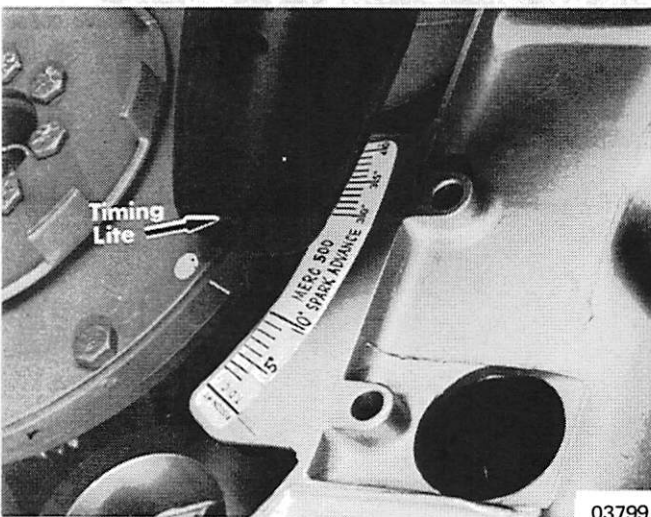

Figure 5. Timing Mark at 7° to 9° BTDC
2. With engine still running, advance ignition driver so that timing mark lines up 7° to 9° BTDC. (Figure 5)